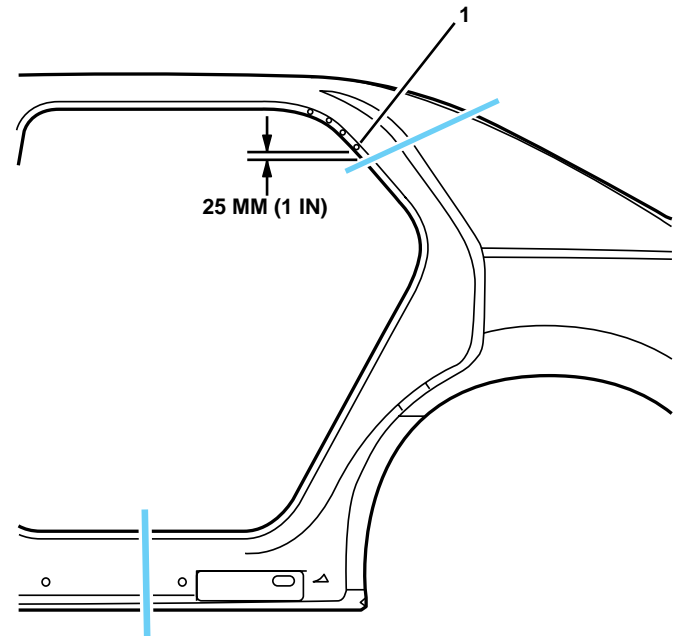

Fig. 1-8 — Outer Rear Pillar Sectioning
IMPORTANT: Sectioning should be performed only in the recommended areas (Fig. 1-8). Failure to do so may compromise the structural integrity of the vehicle.
4. Determine sectioning locations in rocker area (Fig. 1-8).
6. In upper quarter panel door opening, locate the fourth weatherstrip hole (1).